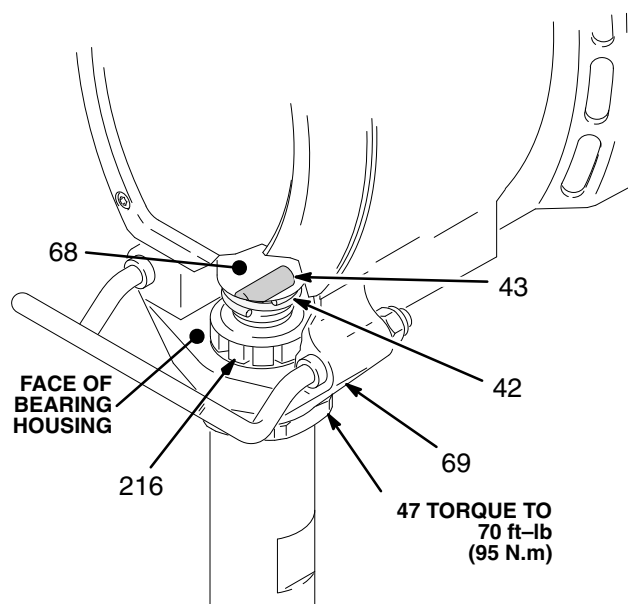

Fig. 32
### Install the pump (Fig. 32).
Be sure the retaining spring (42) is firmly in the groove of the connecting rod, all the way around, to prevent it from working loose due to vibration. Refer to Fig. 32.